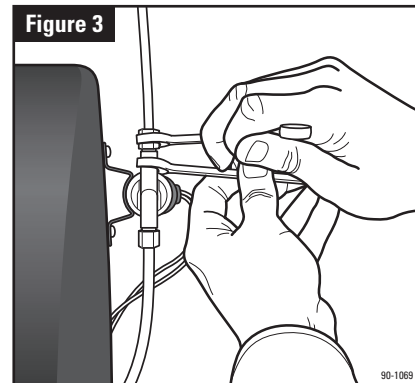

Figure 3
10. Connect tubing from the saddle valve to the inlet side of the solenoid valve using 1/4" O.D. copper tubing (not furnished). **DOUBLE WRENCH TO PREVENT LEAKING!** (See **Figure 3**)